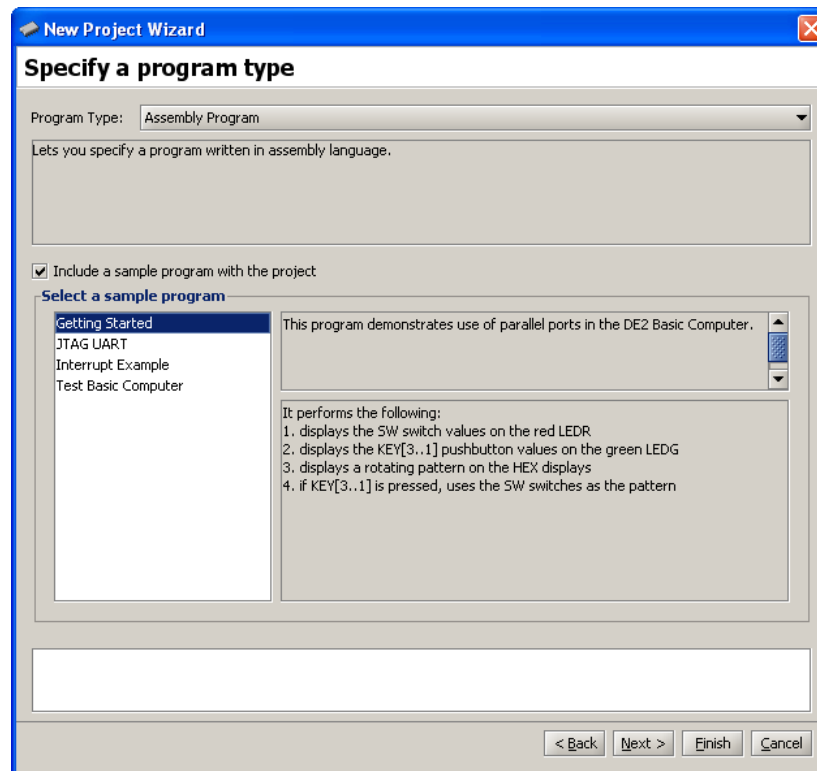
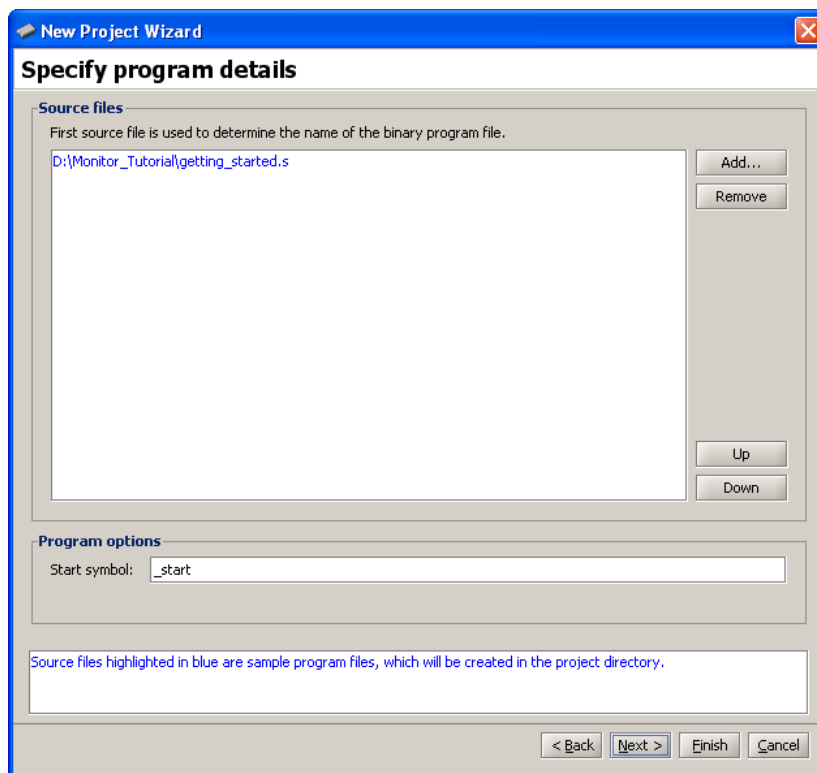

Figure 8. Selecting a program type and sample program.
Figure 9. Specifying source code files.
- Click **Next** to advance to the screen in Figure 8, which is used to specify the program source files that are associated with the project. The **Program Type** drop-down list can be used to select one of the following program types:
sample program with the project. As illustrated in Figure 8 several sample assembly language programs are available for the DE2 Basic Computer. For this tutorial select the program named *Getting Started*. Click **Next** to advance to the screen in Figure 9. When a sample program has been selected, the source code file(s) associated with this program are listed in the **Source files** box. In this case, the source file is named *getting_started.s*; this source file will be copied into the directory used for the project by the Monitor Program. If a sample program is not used, then it is necessary to click the **Add** button and browse to select the desired source file(s).
Figure 9 shows that it is possible to specify the label in the assembly language program that identifies the first instruction in the code. In the *getting_started.s* file, this label is called `_start`, as indicated in the figure.